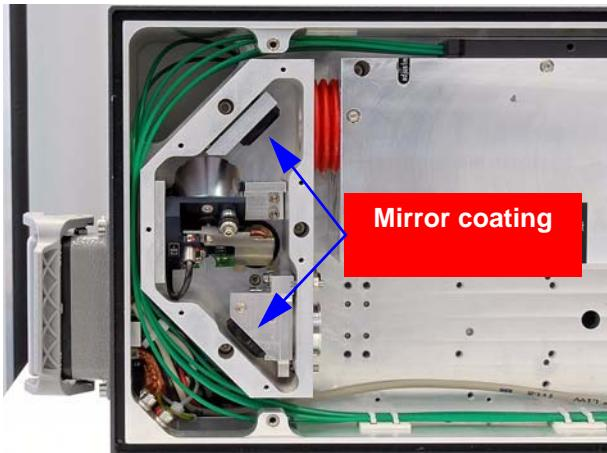

Figure 4.40 Installing the deflecting mirror
**Attention:** Note the direction of installation of the deflecting mirror (see Figure 4.40)! The gold-colored ring on the deflecting mirror must point in the direction of the laser beam! The deflecting mirror will be destroyed if it is installed incorrectly!